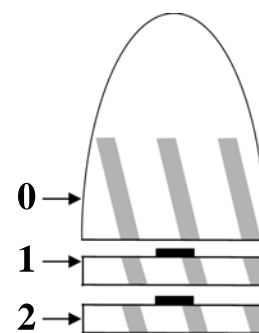

Figure 3
1. Pick up the Bullet model marked “0” (Figure 3).